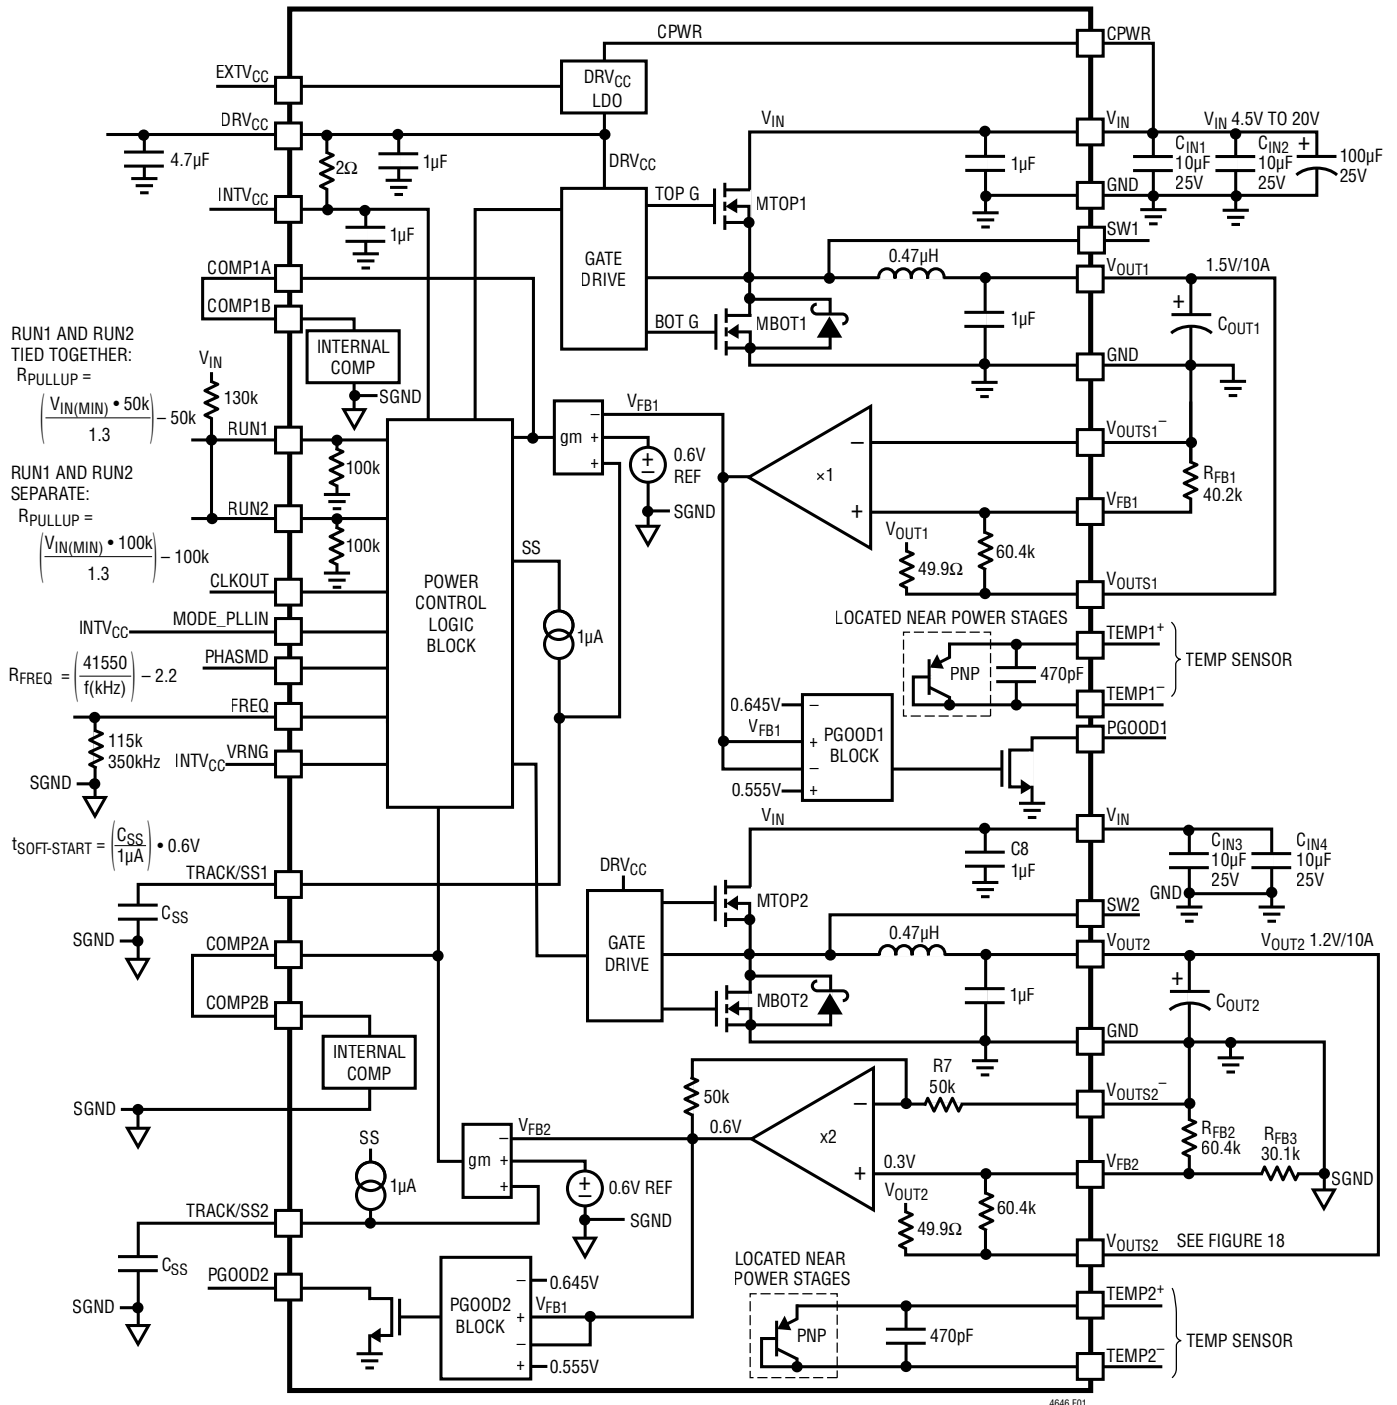

Figure 1. Simplified LTM4646 Block Diagram
**VFB1 (G4):** This pin is the + input to a unity gain differential amplifier. This pin is connected to VOUTS1 with a 60.4k precision resistor internal. Different output voltages can be programmed with an additional resistor between VFB1 and VOUTS1 pins. The differential amplifier is feeding back the divided down output voltage from a remote sense divider network to compare to the internal 0.6V reference. In 2-phase single output operation, tie the VFB1 pin to INTVCC. See Figure 1 and Applications Information section for details.
**VFB2 (E4):** This pin is the + input to a non-inverting gain of two amplifier utilizing three resistors in the feedback network to develop a remote sense divider network. This pin is connected to VOUTS2 with an internal 60.4k precision resistor. The VOUT2 voltage is divided down to 0.3V then gained back up to 0.6V to compare with the internal 0.6V reference. This technique provides for equivalent remote sensing on VOUT2. See Figure 1 and Applications Information section for details.
RUN pin will turn on the DRVCC, and turn on the INTVCC path for operation. See Figure 1 and Applications section.
## DECOUPLING REQUIREMENTS $T_A = 25^\circ\text{C}$ . Use Figure 1 configuration.
The PWM controller has an internal 0.6V reference voltage. As shown in Figure 1, a 60.4k internal feedback resistor connects between the  $V_{OUTS1}$  to  $V_{FB1}$  and  $V_{OUTS2}$  to  $V_{FB2}$ . It is very important that these pins be connected to their respective outputs for proper feedback regulation. Each channel has a 49.9 $\Omega$  resistor connected from  $V_{OUTS1}$  and  $V_{OUTS2}$  to  $V_{OUT1}$  and  $V_{OUT2}$ , respectively. This is used to protect the output if  $V_{OUTSn}$  is open or left unconnected. The  $V_{OUT1}$  output voltage will default to 0.6V with no feedback resistor on  $V_{FB1}$ . Adding a resistor  $R_{FB1}$  from  $V_{FB1}$  pin to  $V_{OUTS1}^-$  programs the output voltage: